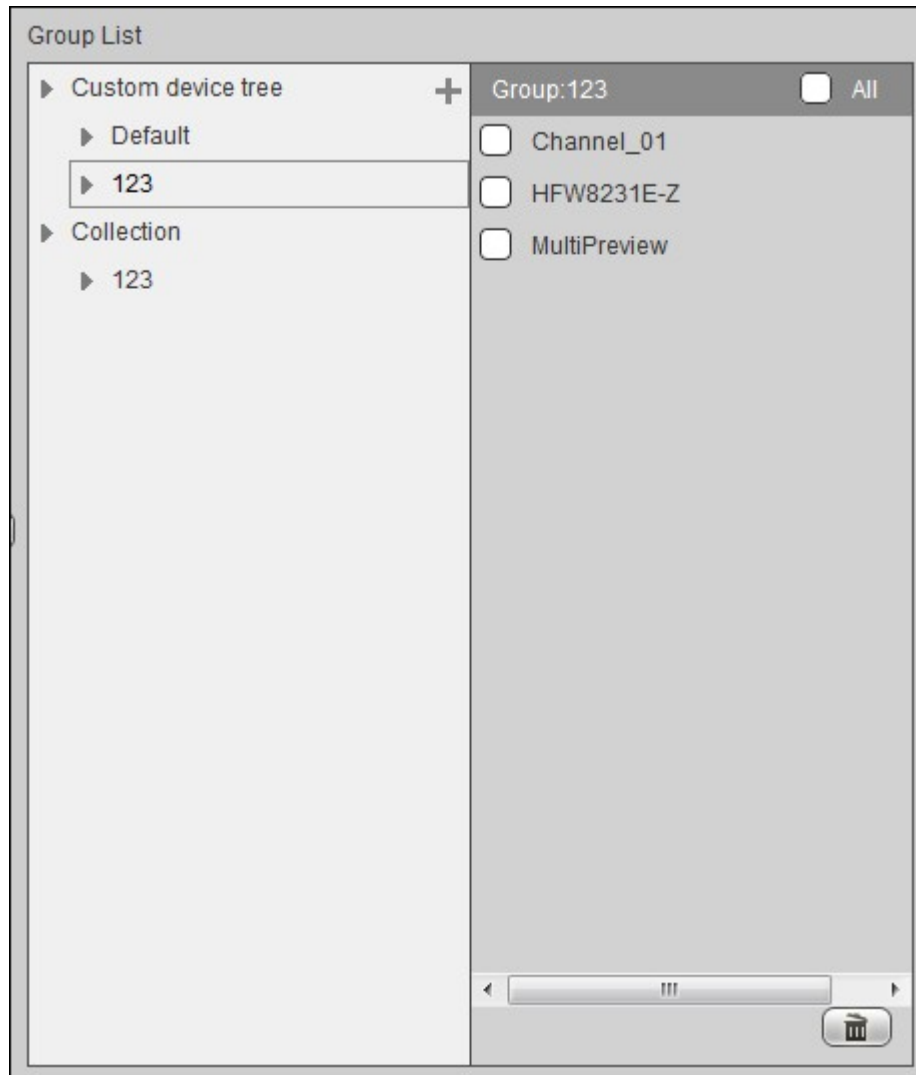

Figure 4-92
- Step 5 Click  to complete signal group, as shown in Figure 4-92.